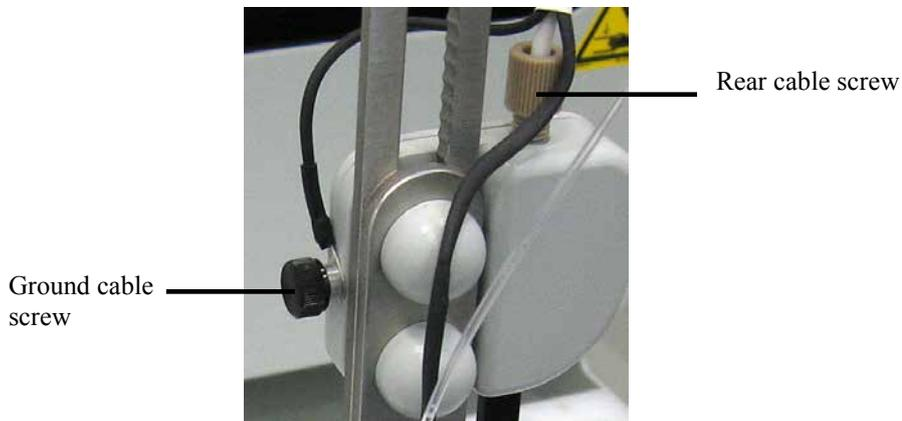

Fig. 29: Cable screws on the diverter valve assembly
8. Tighten the finger-tight knurled screw that attaches the rear cable to the diverter valve and connect the grounding cable from the rear cable to the ground cable screw and tighten the screw (→ Fig. 29, page 68).
5. Loosen the two finger-tight knurled screws that attach the rear cable and grounding cable to the diverter valve assembly (→ Fig. 29).